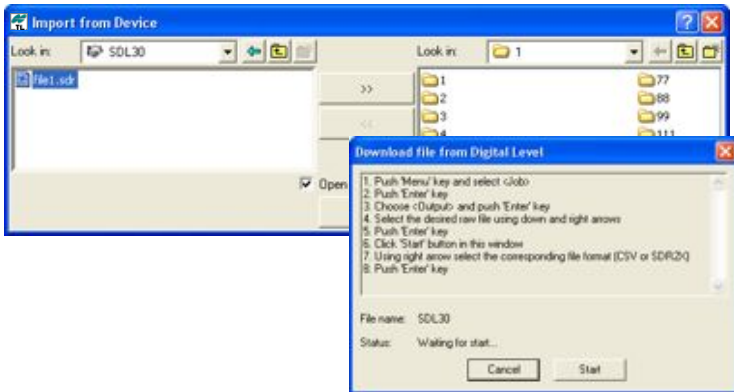

Figure 4-11. Import File from Sokkia Digital Level
- Follow all steps listed in the Download file from the *Digital Level* dialog box (Figure 4-11 on page 4-15) to select a file and begin the import. These steps may vary depending on the connected device.